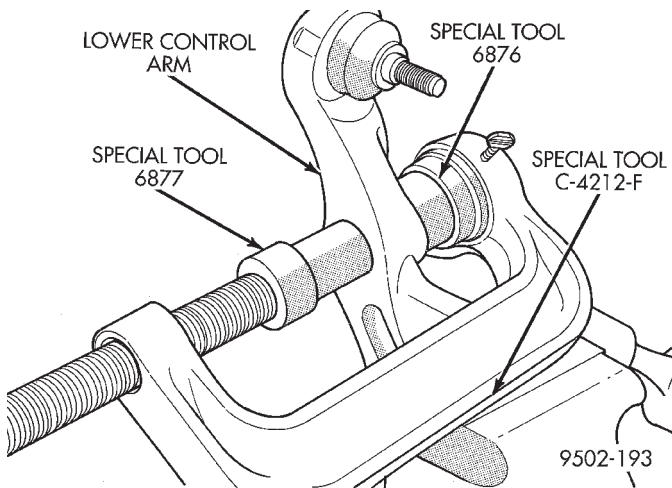

Fig. 104 Removing Clevis Bushing From Lower Control Arm
(1) Remove lower control arm assembly from vehicle. See Lower Control Arm Removal in this section of the service manual for the required removal procedure.
(2) Install Bushing Remover, Special Tool 6877 and Bushing Receiver, Special Tool 6876 on Special Tool C-4212-F.
(3) Install lower control arm on Special Tools assembled for removal of the clevis isolator bushing. Be sure Special Tool 6876 is square on lower control arm and Special Tool 6877 is positioned correctly on clevis bushing (Fig. 104).
(4) Tighten screw on Remover/Installer Special Tool C-4212-F to press clevis bushing out of lower control arm.